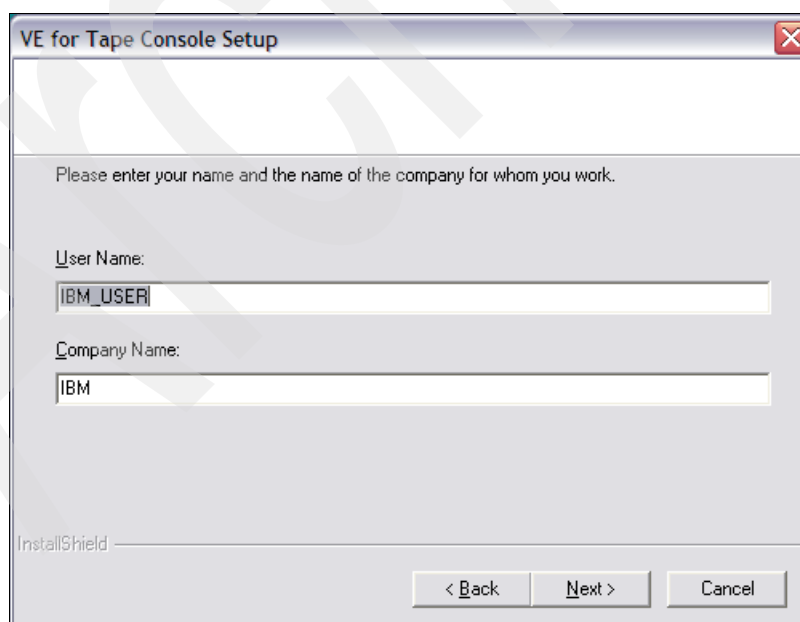

Figure 6-12 TS7530 VE for Tape Console install location
8. In the VE for Tape Console setup of the installation wizard you can enter your name and the name of the company and click **Next** on the panel shown in Figure 6-12.